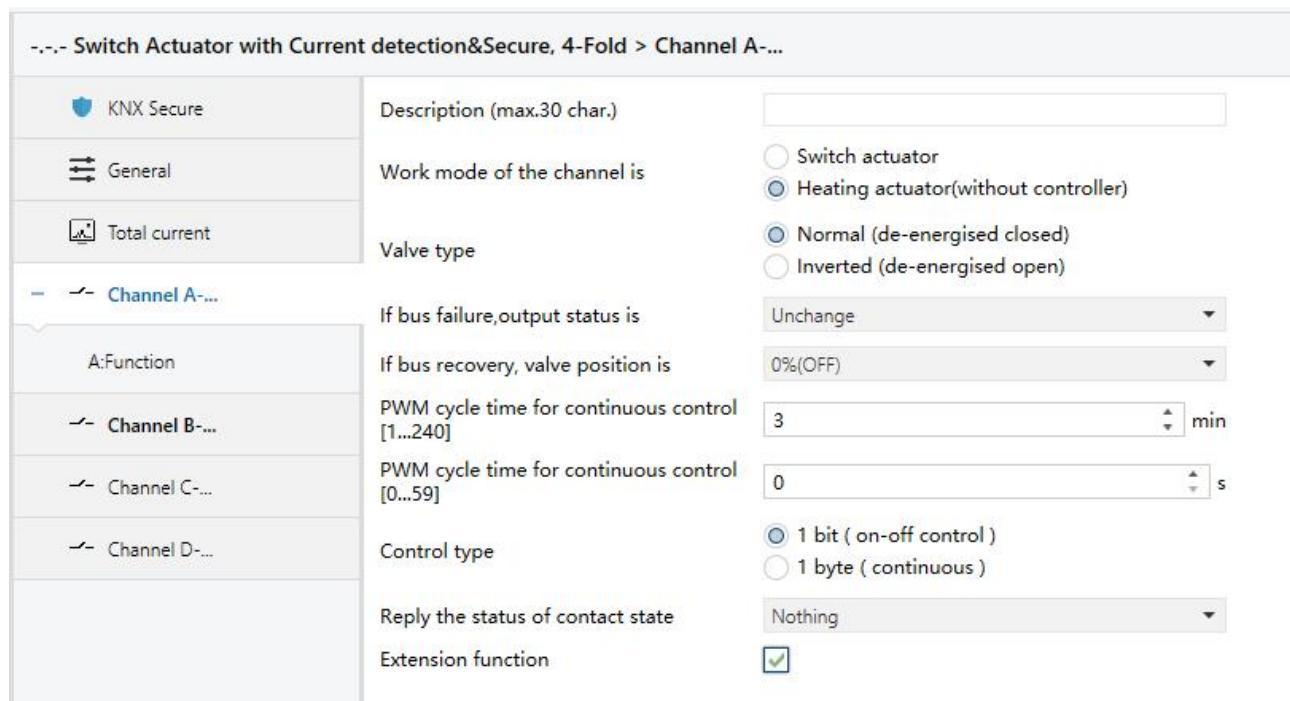

Fig. 4.5(1) Parameter window “Channel: X-Heating actuator”
The window of “Channel X-Heating actuator” in Fig. 4.5(1) will be visible with “Heating actuator (without controller)” in “Work mode of the channel”.